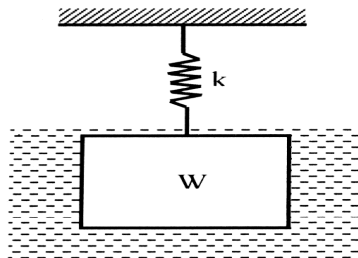

Fig.3, Q. No. 2 (a), P08AU65
- 2 a. A thin plate of area A and weight W is attached to the end of the spring and is allowed to oscillate in a viscous fluid as shown in Fig.3. Q.2. (a) If f_1 is the frequency of oscillation of the system in air (damping is negligible) and f_2 that in the fluid. Show that $\eta = \frac{2\pi w}{gA} \sqrt{f_1^2 - f_2^2}$ 10